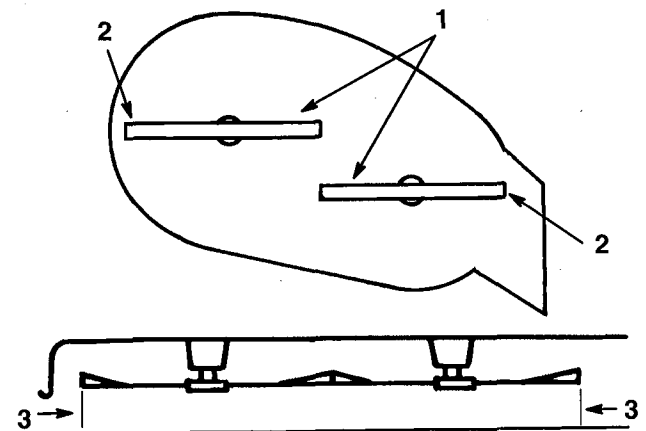

Figure 10
3. Carefully rotate blade(s) side to side (Fig. 10). Measure between the outside cutting edges and the flat surface (Fig. 10). If both measurements are not within 3/16" (4.762mm), an adjustment is required; refer to steps 4 and 6.
3. Carefully rotate blade(s) side to side (Fig. 10). Measure between the outside cutting edges and the flat surface (Fig. 10). If both measurements are not within 3/16" (4.762mm), an adjustment is required.